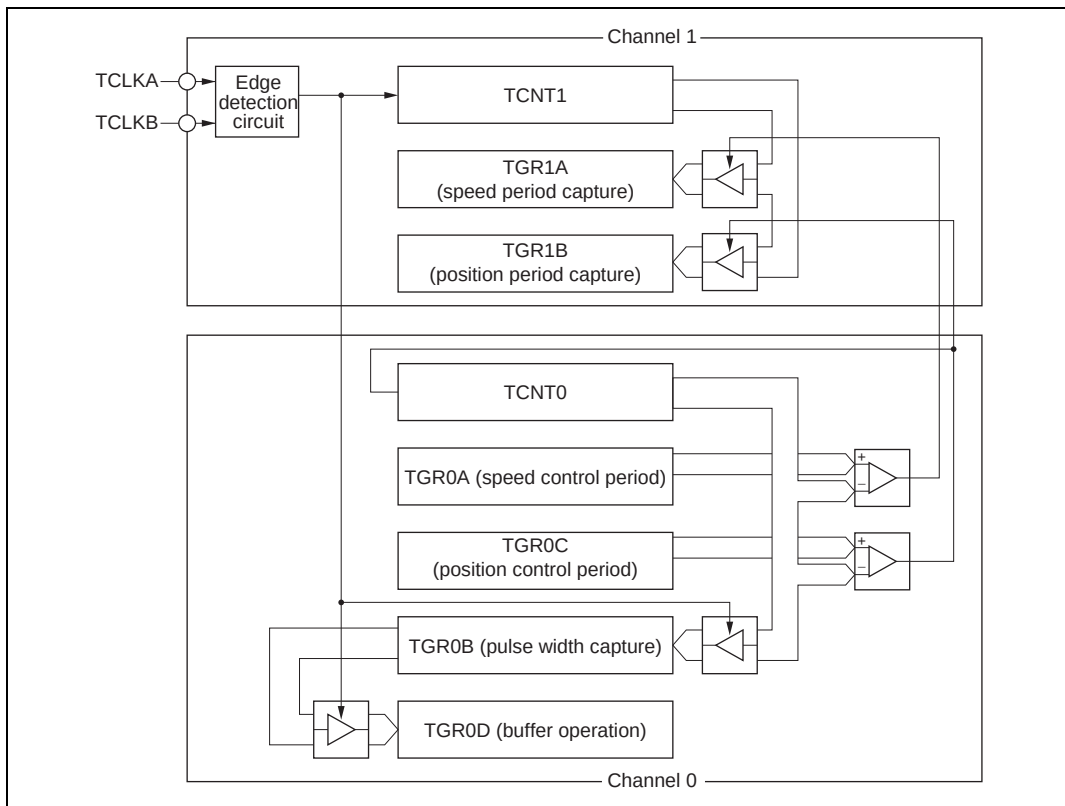

**Figure 9.33 Phase Counting Mode Application Example**
**Phase Counting Mode Application Example:** Figure 9.33 shows an example in which phase counting mode is designated for channel 1, and channel 1 is coupled with channel 0 to input servo motor 2-phase encoder pulses in order to detect the position or speed.